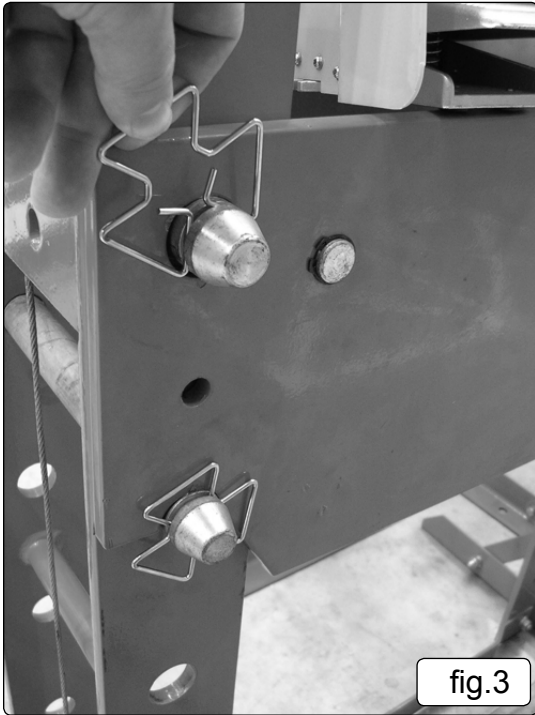
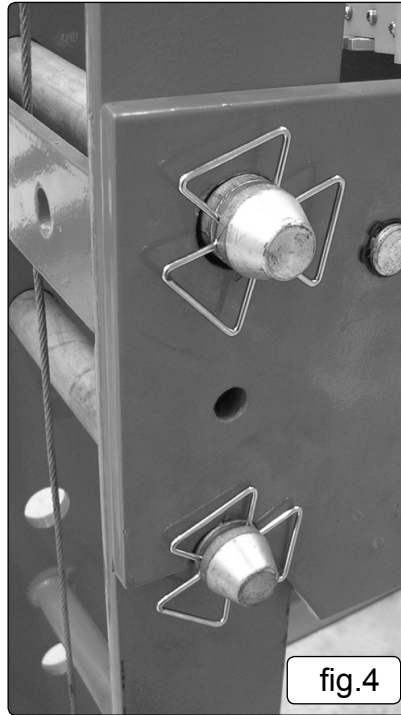

fig.3
fig.4
- 6.1. Set the bed frame at the desired height, if adjustment is required, turn the hand winch until the cable just takes the weight of the bed frame, remove the safety clips (13) from the back of the pins (12), see Fig.3 and withdraw the pins. Use the hand winch to raise or lower the bed frame to the height required, insert pins and safety clips (Fig.4). Slacken off the hand winch so that the pins are taking the full weight of the bed frame.